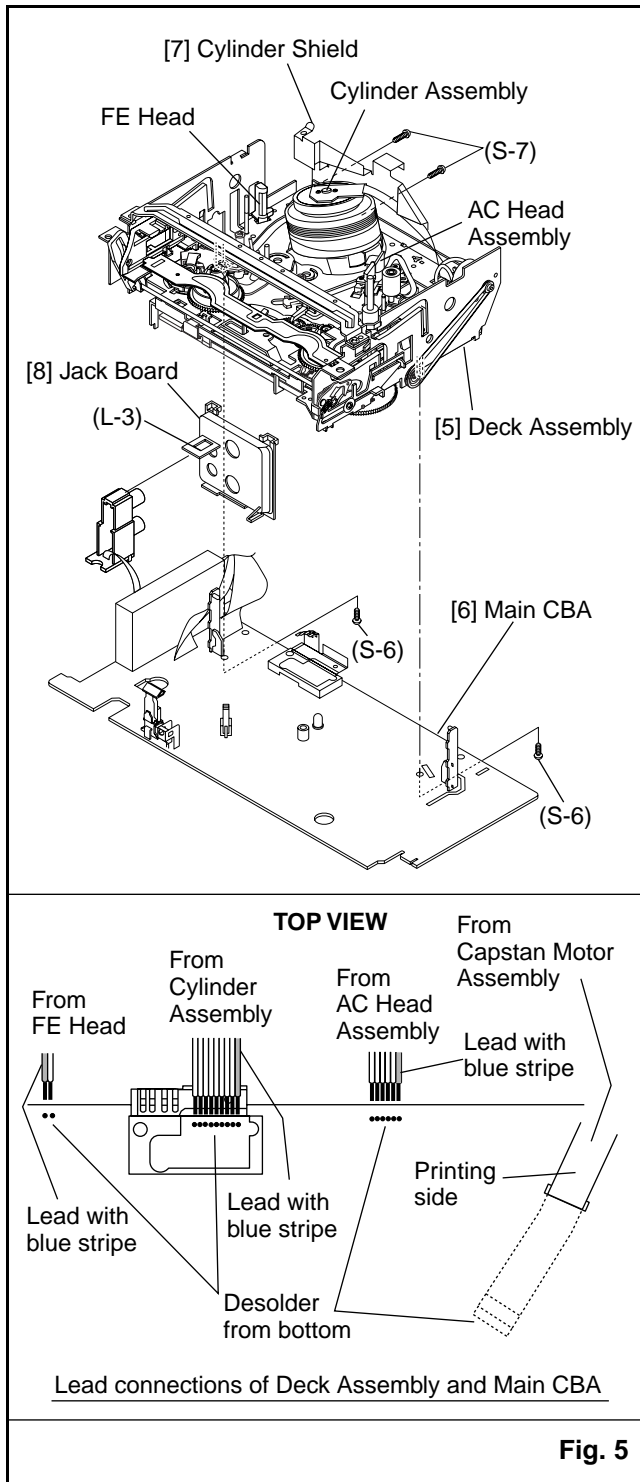

Fig. 5
- When reassembling, solder wire jumpers as shown in Fig. 5.